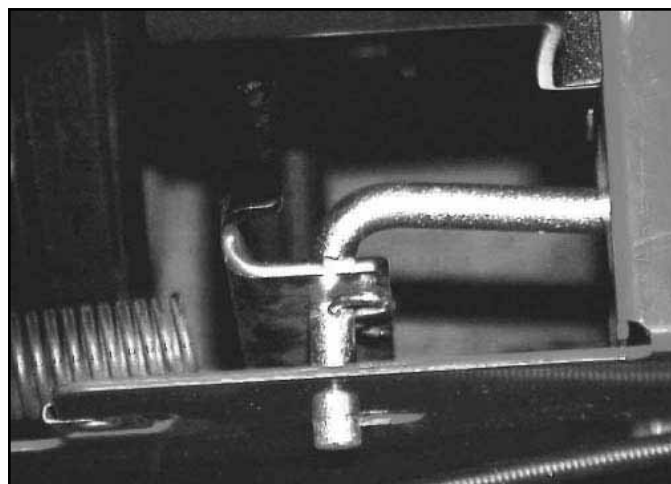

Fig 065
2. On the left side of the machine, remove the hairpin cotter from the speed control link (Fig. 065).